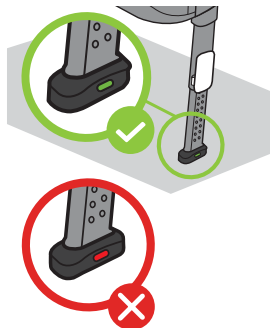

Figure 65
- Confirm that Load Leg Pressure Indicator has turned from red to green, as shown in **Figure 65**. If Indicator remains red after the Load Leg has been locked into position, extend Load Leg one position further to increase the contact between the vehicle floor and the Load Leg.